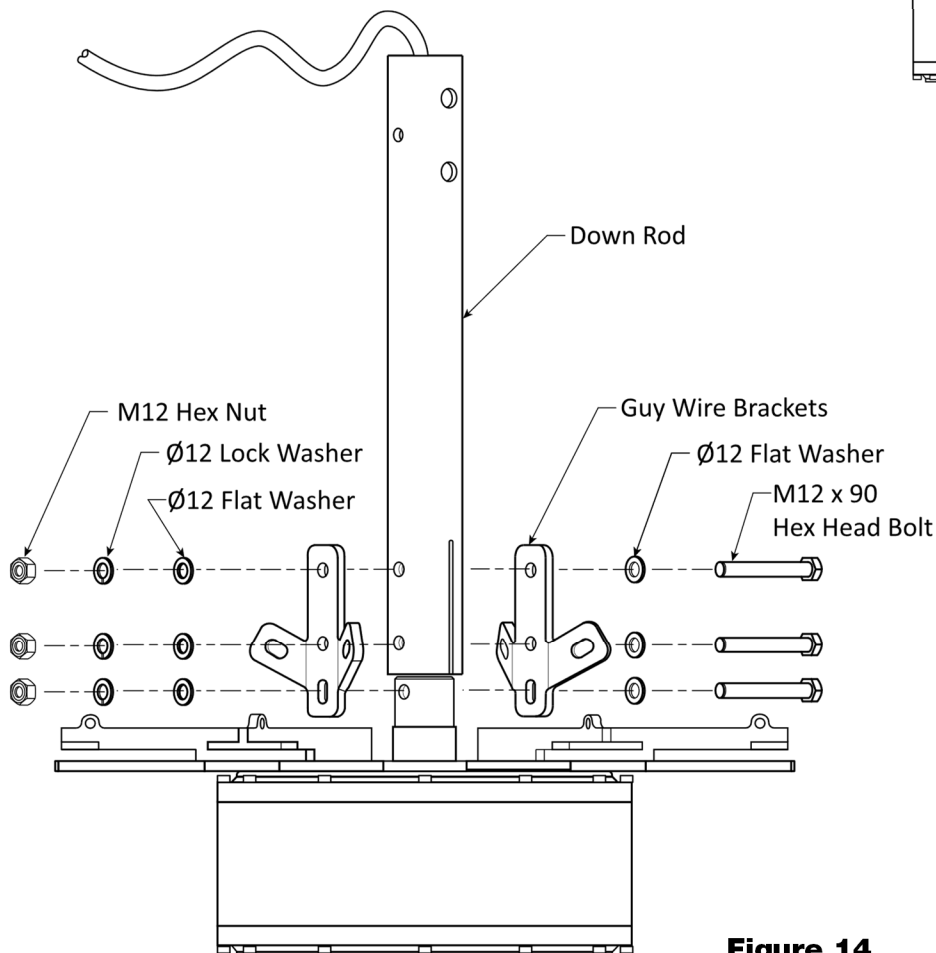

Figure 14
3. Attach the Guy Wire Mounting Brackets to the Main Shaft as detailed in **figure 14**.